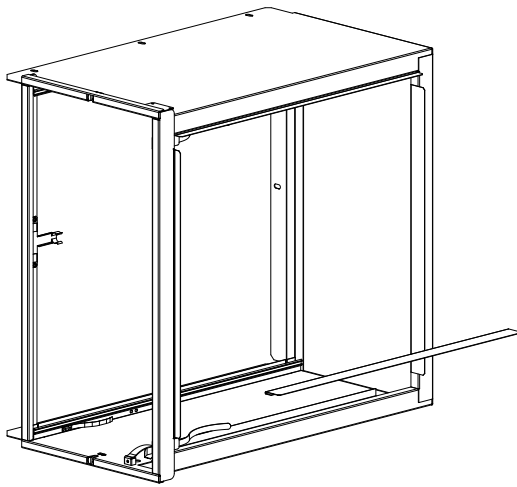

Fig. 6 - Use of Return Duct Adapters
- Use return duct adapters provided to attach return ductwork (See Fig. 6).